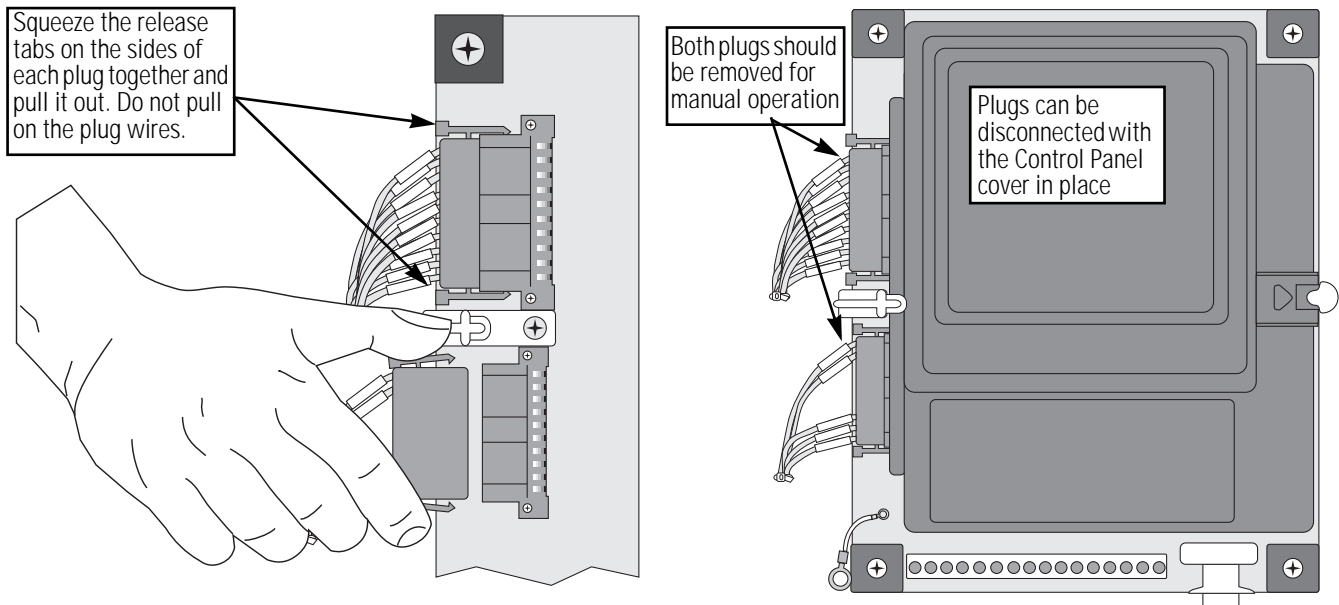

Figure 30: Removing the control panel connector
3. Reconnect the two connectors on the left side of the control panel (See Figure 30 on page 28).